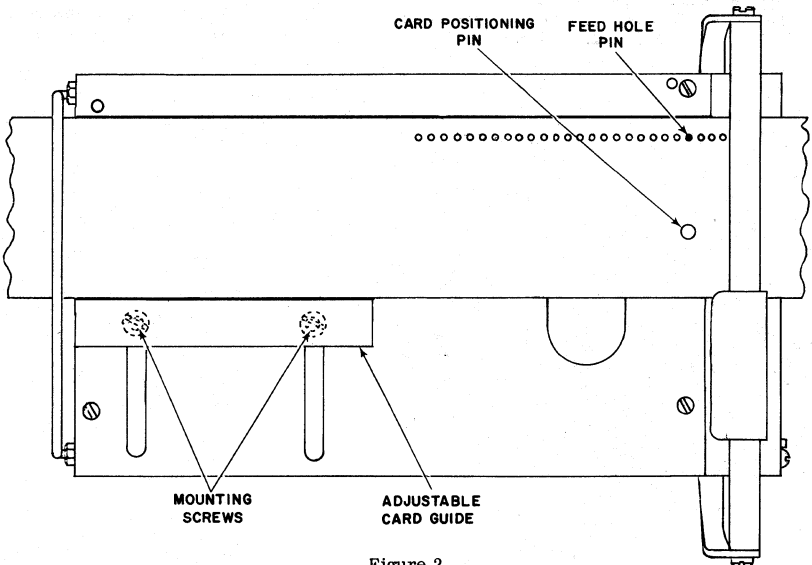

Figure 2
1. Place two continuous edge cards in the card cutter so they are under the wire guide and positioned on the card positioning and feed hole pins. Loosen the mounting screws slightly and position the adjustable guide so it touches the cards. Tighten the mounting screws (Figure 2).